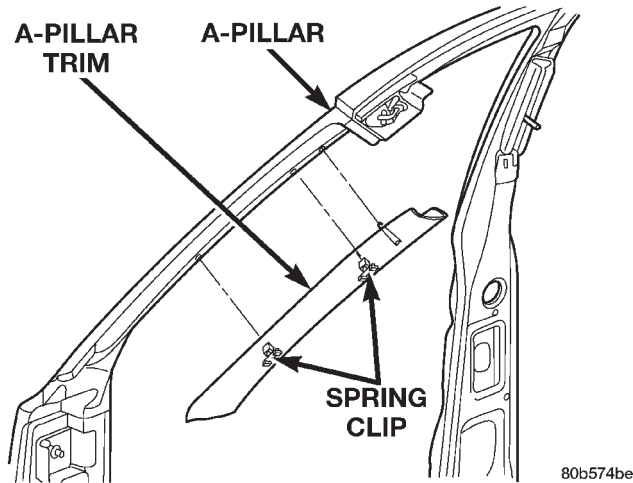

Fig. 57 A-Pillar Trim
- (1) Grasp A-pillar trim and pull trim outward from A-pillar (Fig. 57).
- (2) Separate A-pillar trim from A-pillar.